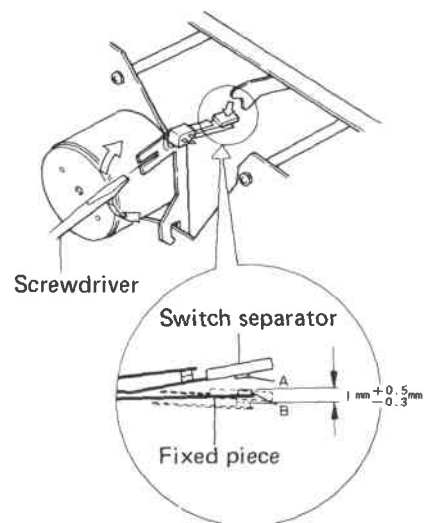

Fig. 24 Muting switch operation adjustment
2. Load a cassette tape, and slowly push the PLAY button. Insert a screwdriver into the groove shown in Fig. 24, and adjust so that the cassette lamp is illuminated simultaneously with stopping of the head base operation.